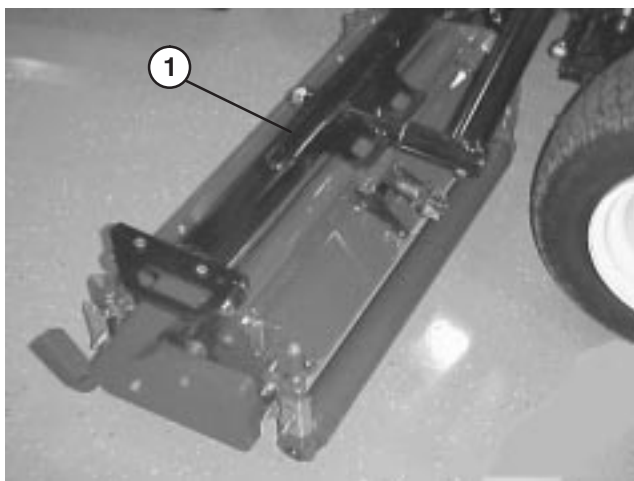
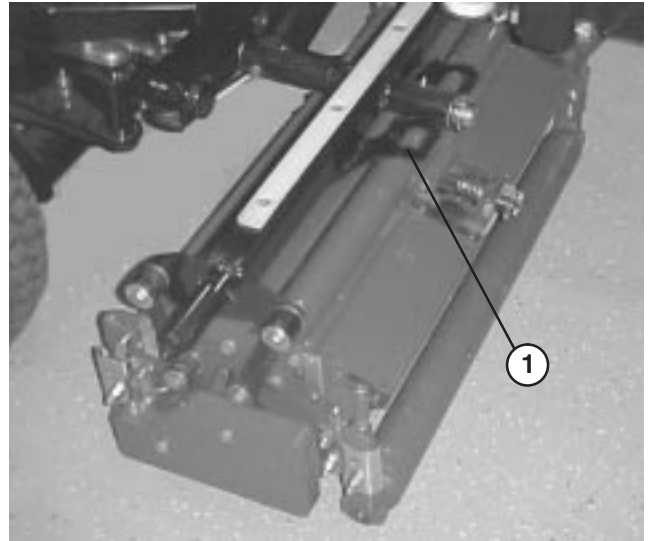
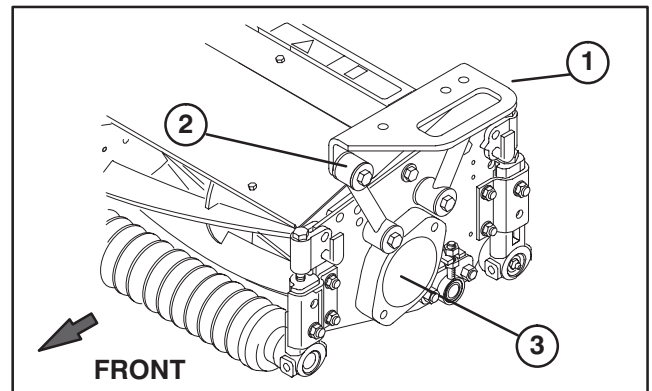

Figure 16
Figure 17
Figure 18
MOUNT CARRIER FRAMES TO CUTTING UNITS (Fig. 16 – 18)
2. Position a front carrier frame (Fig. 16) onto each front cutting unit. Align mounting holes with mounting links as shown in figure 18.
3. Position rear carrier frame (Fig. 17) onto rear cutting unit, aligning mounting holes with mounting links as shown in figure 18.
4. Secure each mounting link to carrier frame with a 3/8–16 x 2–1/4” lg capscrew, (2) flatwashers and a locknut, as shown in figure 18. Position a washer on each side of link when mounting. Torque to 31 ft–lb.
3. Remove shipping plug from bearing housings on remaining cutting units (Fig. 18).